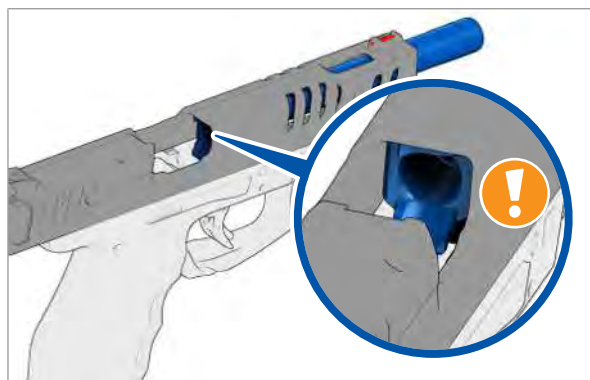

Fig. 15: Look into the chamber
3. Look into the chamber (*Fig. 15*). There must not be a cartridge in the chamber. If there is a cartridge in the chamber, then a fault is present. ► Faults: Causes and remedies.